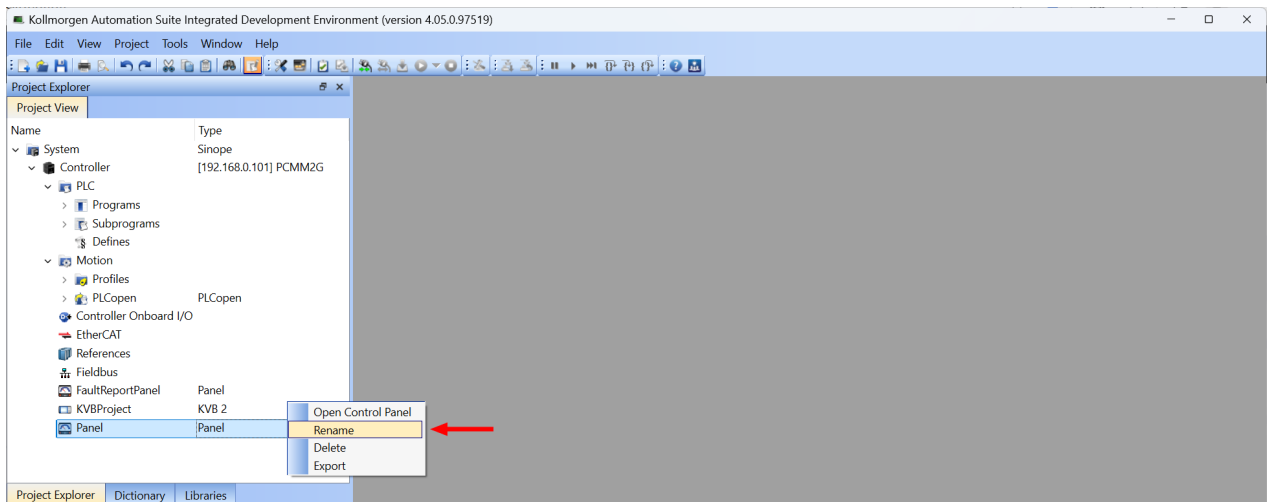

Figure 2-2: Rename option
2. Right-click the new Panel and select **Rename**. (Figure 2-2)